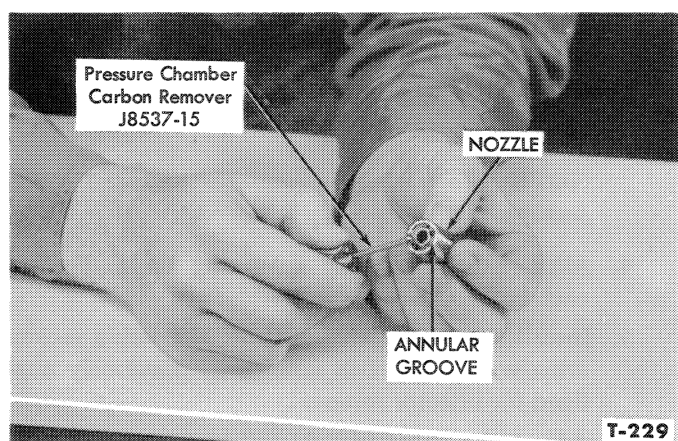

Figure 15—Cleaning Annular Groove in Nozzle
5. The annular groove in the top of the nozzle and the pressure chamber groove in the nozzle are cleaned with the Pressure Chamber Carbon Remover J8537-15, Figure 15.